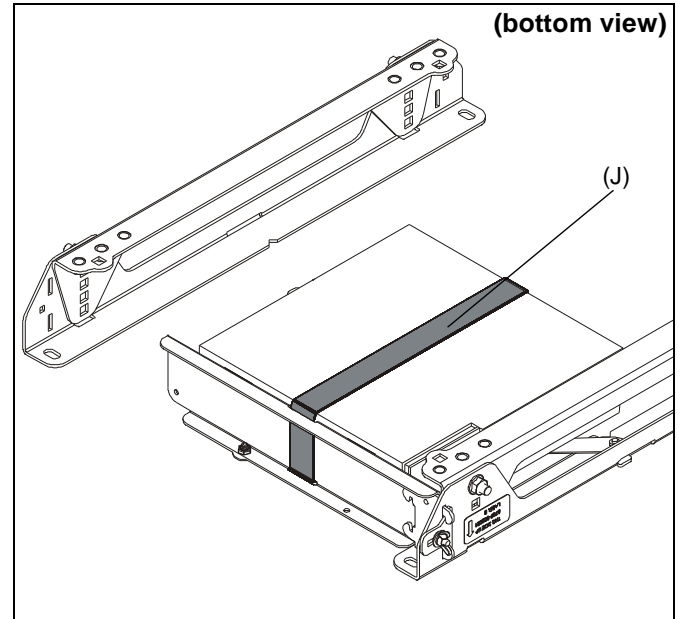

Figure 7
- Use hook and loop strap (J) to secure CPU to shelf (C). (See Figure 7)